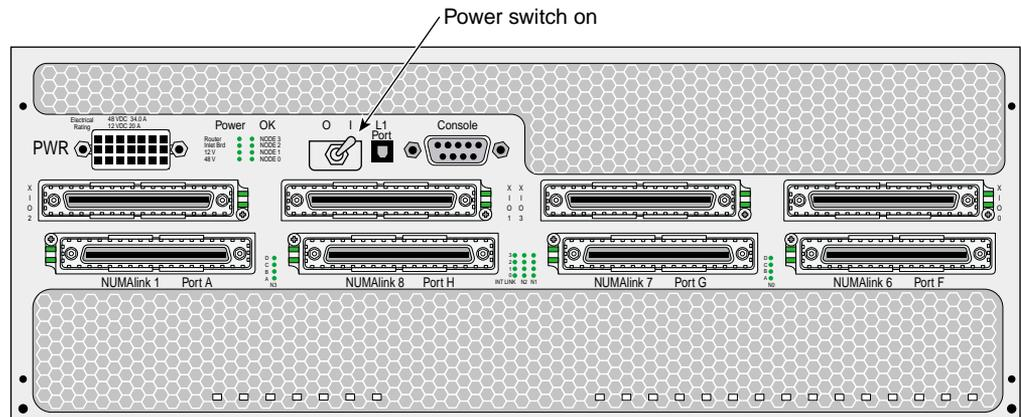

Figure 1-2 Cx-brick Power Switch
2. For each individual brick that you want to power on, make sure that the **PWR** (power) switch is set to the **1** (on) position, as shown in Figure 1-2. When the power switch is on and power is supplied to the brick, the L1 controller of the brick powers on. The 12-VDC LED of the brick illuminates green when 12 VDC is present.